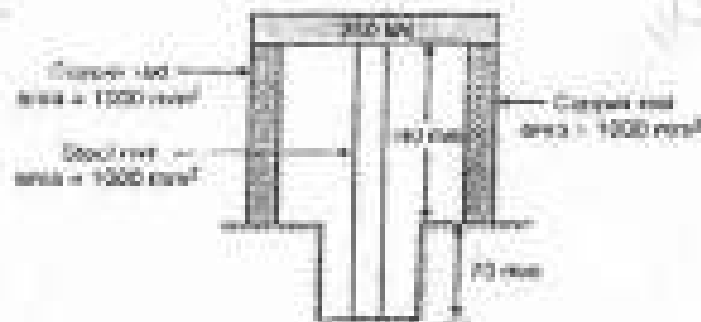

Fig. 1
- Q1) a) Three pillars two of copper and one of steel support a rigid platform of 250 kN as shown in the fig. 1. If area of each copper pillar is 1000 mm^2 and that of steel pillar is 3000 mm^2 , find the stresses developed in each pillar. Length of steel rod is 210 mm, length of copper rod is 140 mm. Take $E_s = 1 \times 10^5 \text{ N/mm}^2$ and $E_c = 2 \times 10^5 \text{ N/mm}^2$. [12]